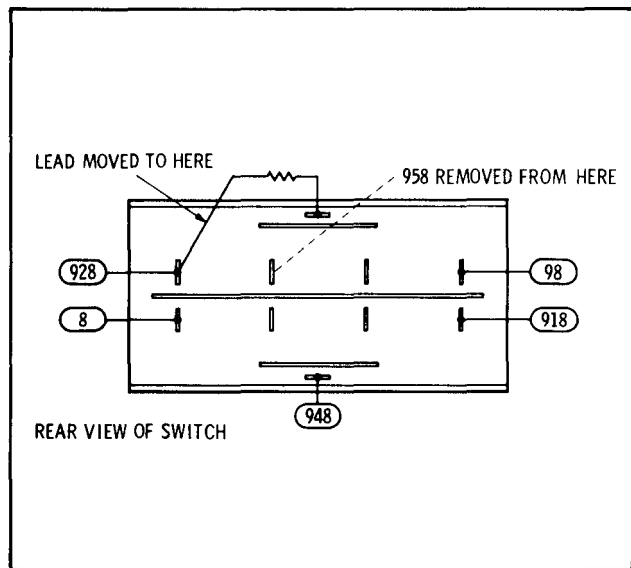

Figure 7-9. Modified Line Switch Wiring
e. Remove white-green-gray (958) wire from switch and clip off near cable sleeve. This wire will no longer be used.
f. Unsolder resistor lead from terminal where the white-green-gray (958) wire was previously attached and solder it to the terminal where the white-red-gray (928) wire is attached. Switch wiring should now appear as in Figure 7-9.
h. Remove white-green-gray (958) wire from terminal C of line power assembly and clip off near cable sleeve.
i. Unsolder white-yellow-gray (948) wire from terminal E and solder it to terminal D (where black-green (05) wire is also attached).